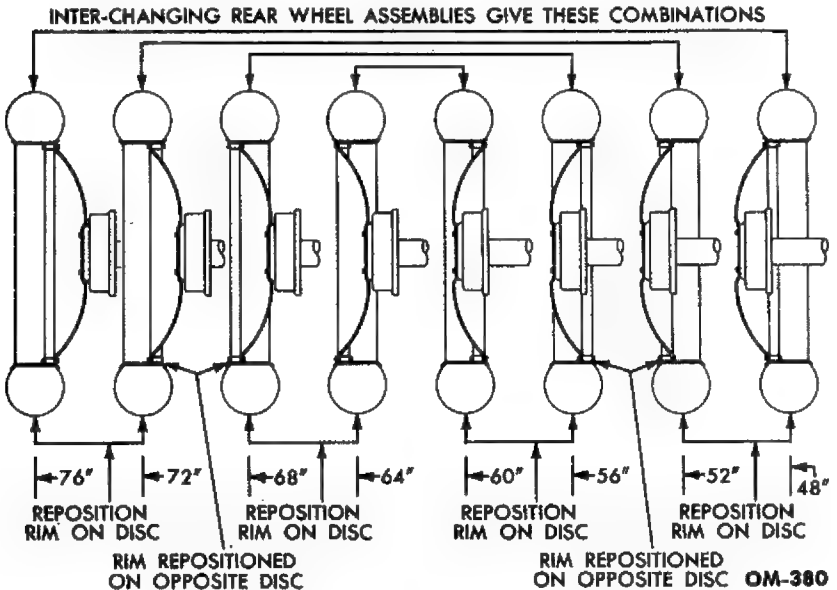

Fig. 11—Rear Wheel Tread Adjustment
a. **Rear Wheels.** The rear wheels are adjustable from 48 to 76 inches tread in 4-inch spacings. Tread width settings are made by changing the position of the steel disks and the rims. The tread is widened by installing wheel disks in convex or concave position and/or by installing rims in any of the four positions as shown in fig. 11. To make the change from 52 inch tread to 72 inch tread, it is only necessary to change the wheels from one side of the tractor to the other. Other wheel changes are similar and are shown in fig. 11.